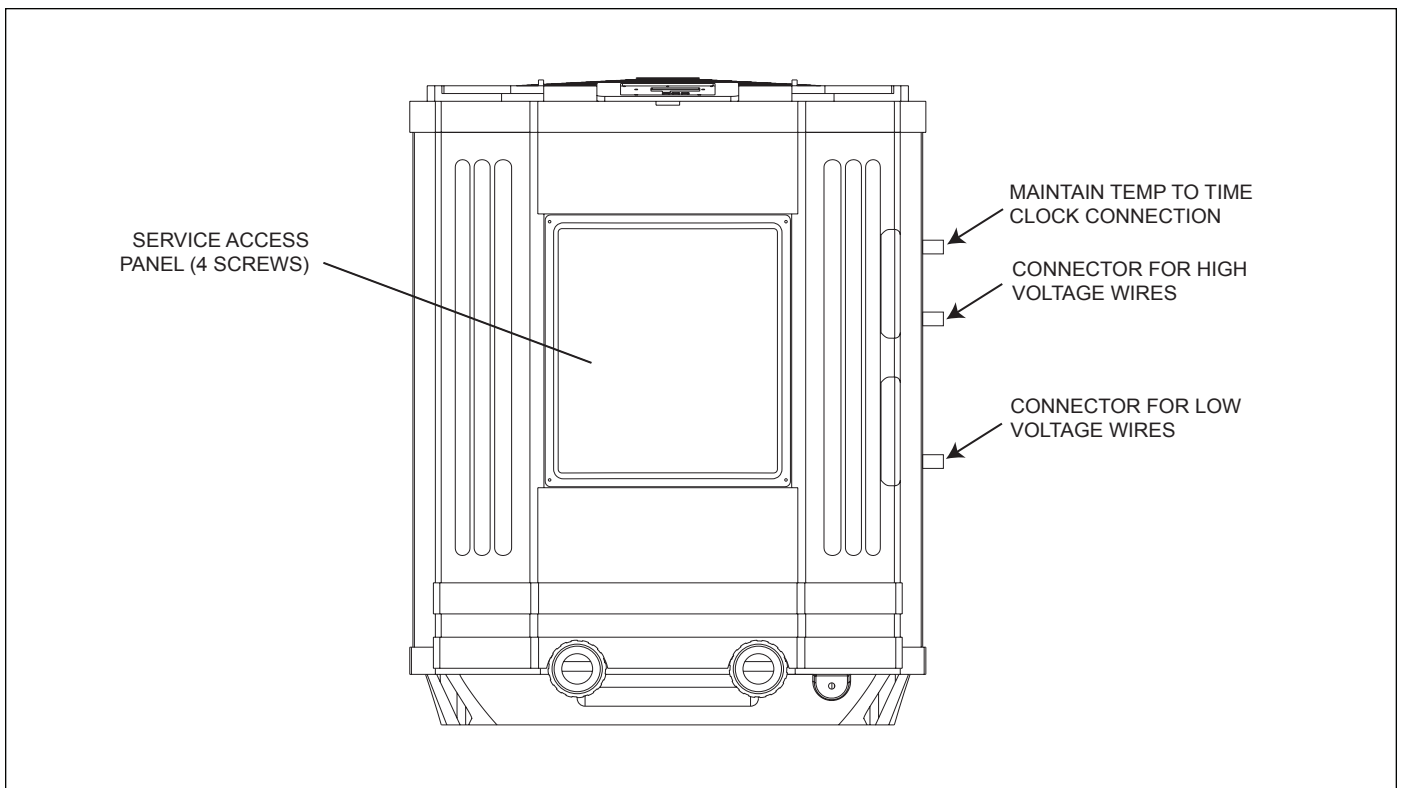

Figure 11. AE-Ti Heat Pump Front View
2. Remove the four (4) screws that attach the service/access panel to the heat pump unit (see Figure 11).
4. Electrical supply lines must be run through watertight conduit. Run the wires and conduit from the power source and connect them to the conduit connection labeled “High Voltage Connection” on the right side of the heat pump. See Figure 11 for connection location.
2. Remove the screws that attach the service/access panel to the heat pump unit and the cover to the junction box (see Figure 11).
3. Run the wires from the pool/spa control system into the conduit connection labeled “Low Voltage Connection”, located on the lower right hand side of the heat pump (see Figure 11).
2. Remove the screws that attach the service/access panel to the heat pump unit and the cover to the junction box (See Figure 11).
3. Run the wires from the pool/spa control system into the conduit connection labeled “low voltage connection”, located on the lower right hand side of the heat pump (See Figure 11).
2. Remove the four (4) screws that attach the service access panel to the heat pump and remove the cover to the junction box. See Figure 11.
3. Run four (4) 22 Ga solid copper wires into the conduit labeled "Low Voltage Connection" located on the lower right hand side of the heat pump. See Figure 11. The wires may be up to 300 feet in length.